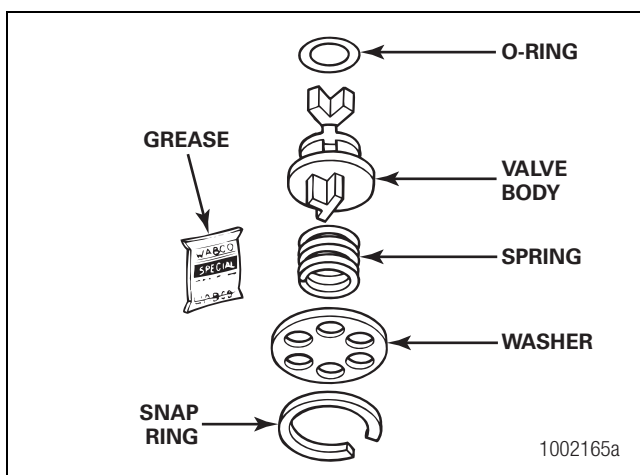

Figure 2.3
1. Review Figure 2.3 to ensure you have all of the parts required to replace the outlet check valve. Use the grease included with the replacement kit to lubricate the O-ring seal.